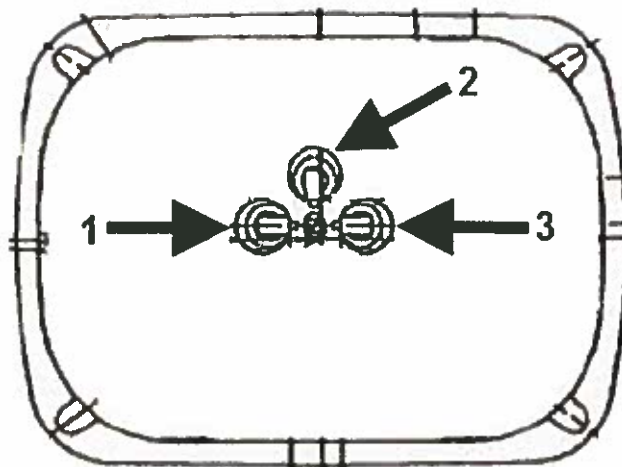

Figure 1 Rectangular Sealed-Beam Headlight (H5054)
4. Remove the electrical connector from the left side headlight. See Figure 1.
9. Remove the electrical connector from the right side headlight. See Figure 1.